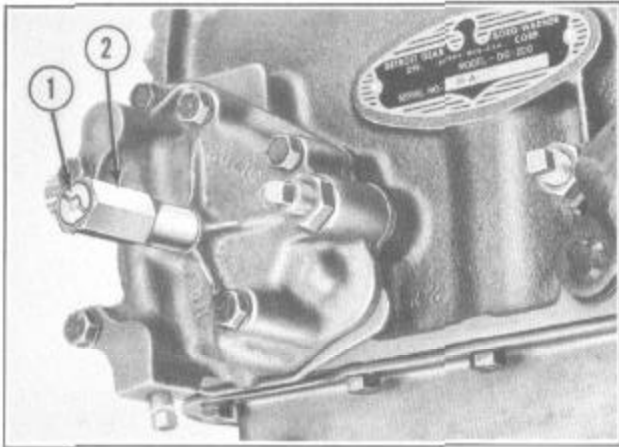

FIGURE 144
2. Carefully screw the Band Adjusting Tool J-4285 (1), Figure 144, into the pressure take-off hole, noting that the indicator plug (2) in the handle of the tool moves outward as the tool is screwed into the pressure take-off hole.
**CAUTION:** Screw the tool in only far enough so that the indicator plug (2), Figure 144, is flush with the end of the tool handle. If the tool is screwed against a tight band to the extent that the indicator plug is forced beyond the end of the tool handle, the tool may be damaged.